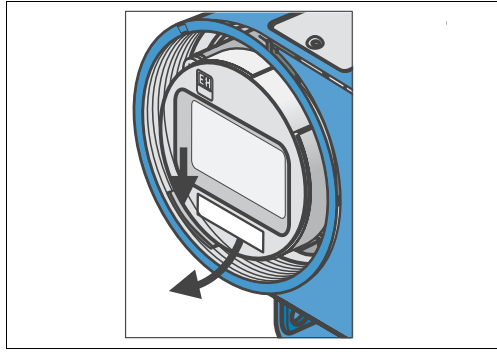

Fig. 16: Removing display
1. Unscrew the lid over the display and push the tab towards the outside (Fig. 16).